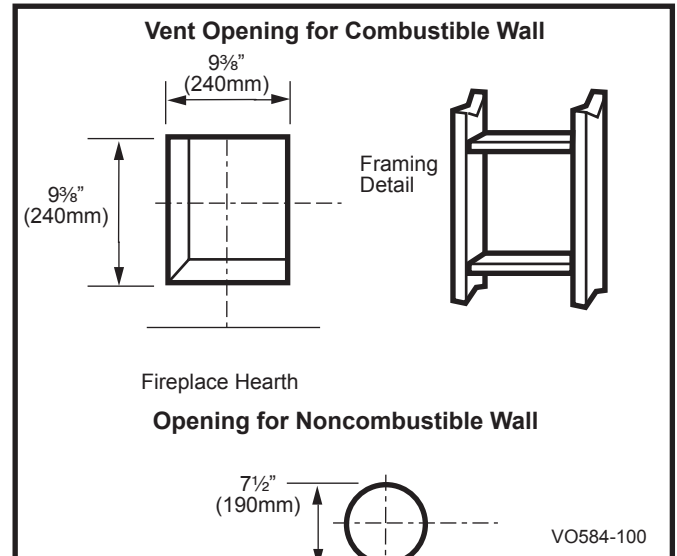

Fig. 21 Locate vent opening on wall.
Locate vent opening on the wall. It may be necessary to first position the fireplace and measure to obtain hole location. Depending on whether the wall is combustible or noncombustible, cut opening to size. (Fig. 21)
Combustible Walls: (Fig. 21) Cut a 9 3/8"H x 9 3/8"W (240 x 240 mm) hole through the exterior wall and frame as shown.
Noncombustible Walls: (Fig. 21) Hole opening must be 7 1/2" (190 mm) in diameter.
1. Establish vent hole through the wall. (Fig. 21)